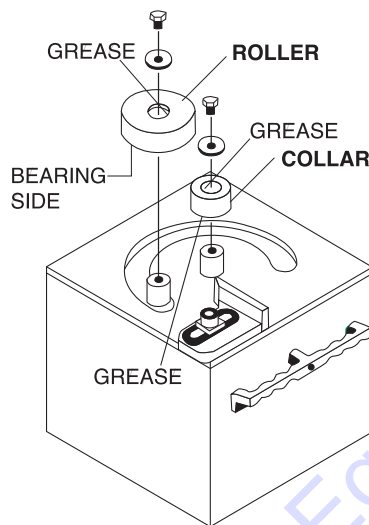

Figure 2. Roller and Collar Installation
3. Install the collar and the roller as shown in Figure 2.